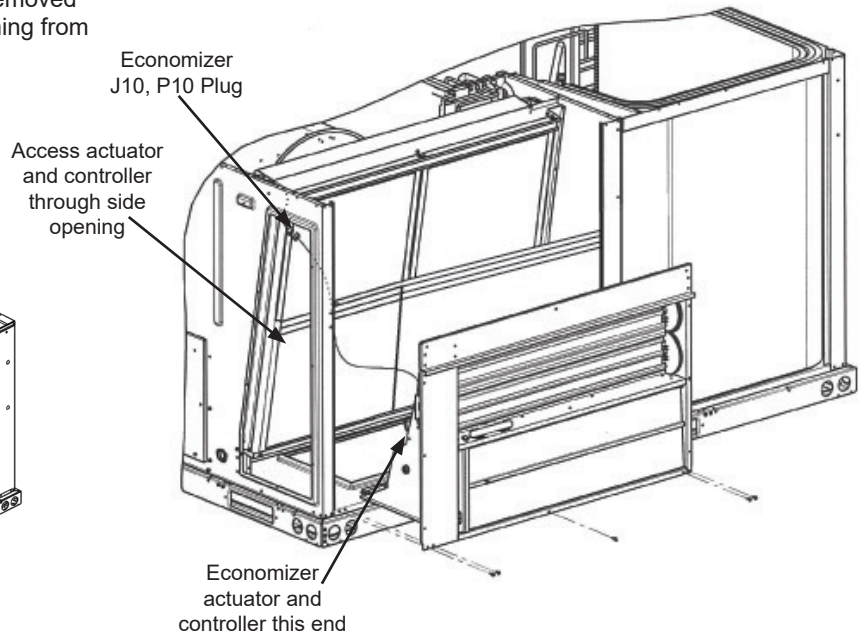

Figure 3 - Economizer Installation
4. Install damper assembly into unit under the cross support. Fit opening in bottom of damper assembly over the return air opening. See Figure 3.
5. At economizer/filter compartment, attach economizer plug P10 to prewired jack (J10). See Fig. 3.